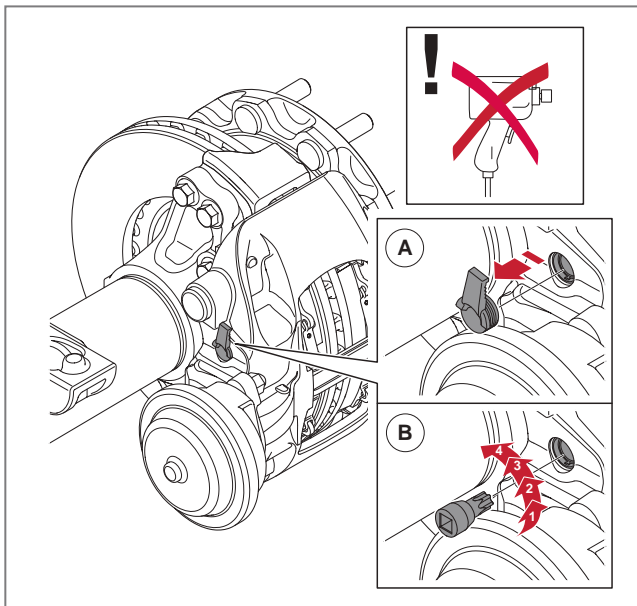

Fig. 8 - De-adjusting with the reset shaft
2. Remove the reset shaft protective plug (item A), see ► *Fig. 8*
3. Using a Torx 55 socket, de-adjust the brake by rotating the reset shaft anti-clockwise by 4 clicks, or until the end stop, see item B, see ► Fig. 8. A clicking sound must be heard and felt when de-adjusting.